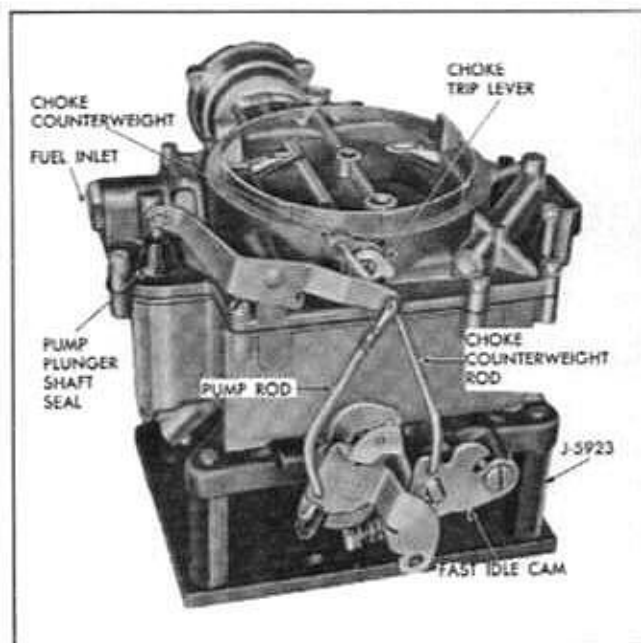

Fig. 6B-80 Rochester 4GC 4 Jet Carburetor
1. Mount carburetor on holding fixture J-5923. Remove gasoline inlet fitting, screen and gasket assembly (Fig. 6B-80).
4. Remove clip from upper end of pump rod (Fig. 6B-80). It is not necessary to remove rod at lower end.
5. Remove trip lever retaining screw at end of choke shaft and remove trip lever (Fig. 6B-80).
6. Remove fast idle cam attaching screw and remove choke counterweight rod and fast idle cam as an assembly (Fig. 6B-80).